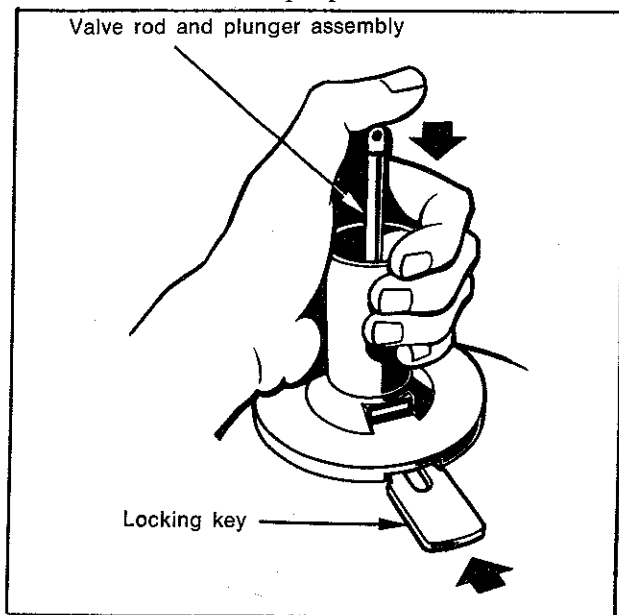

Fig. 6—Installing valve plunger locking key
(1) If rear vacuum seal was removed support rear shell on wooden block with studs facing downwards. Place new seal in cavity and drive in seal using a suitable piece of tubing.
(2) Insert valve rod and plunger assembly in valve body then press down to install valve plunger locking key (Fig. 6).
(3) Push reaction disc into valve body ensuring that it is installed with pimple to rear.